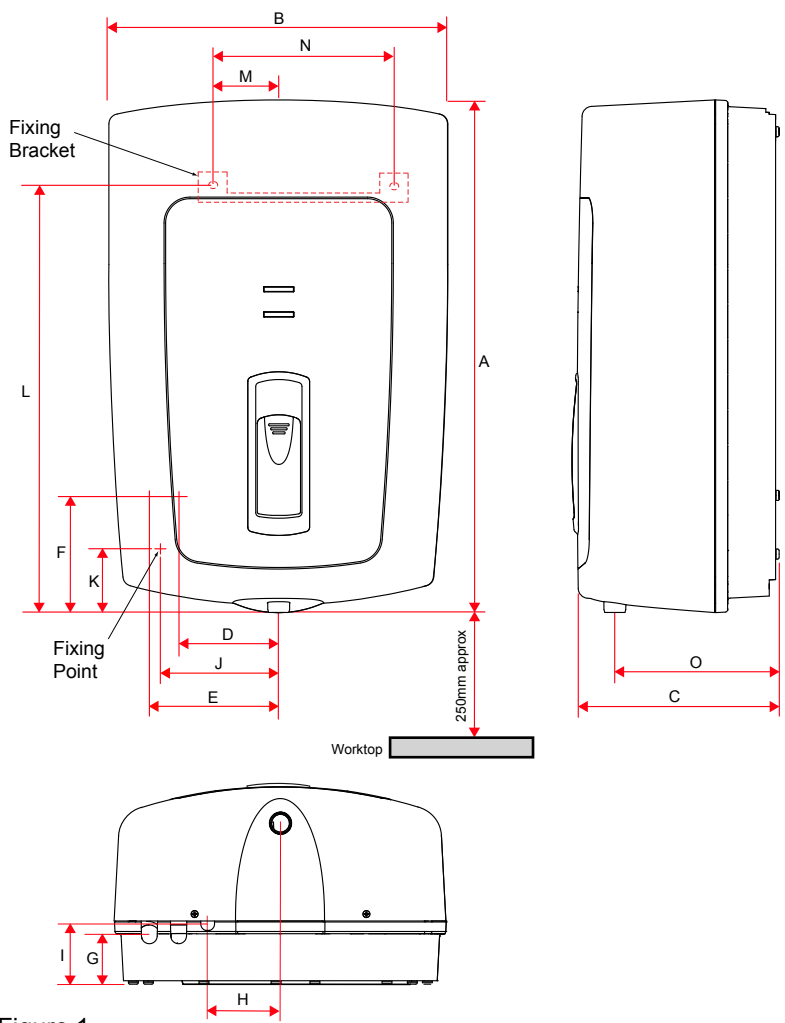

Figure 1
- 2.2 Figure.1 details the outside dimensions of the Supreme unit. A template is supplied to aid positioning the heater. It is recommended that the unit is positioned above a draining board. If this is not possible consideration should be given to any spillages that may occur under the heater. A drip tray is available as an accessory (Heatrae Sadia Code No. 95 970 123). The heater should be positioned at a height to suit the items being filled (flasks, pans, cups etc.). This is likely to position the base of the unit 250mm above the work surface.